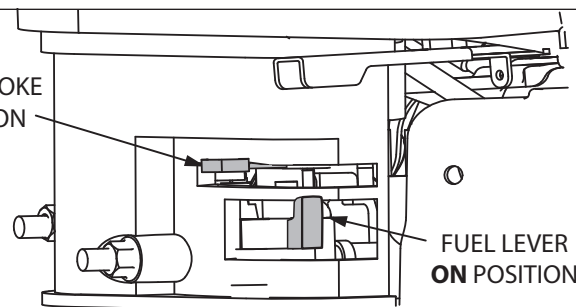

FIGURE 5
- If the engine is cold or the ambient temperature is low, move choke lever to the **FULL CHOKE** position. **SEE FIGURE 5.**